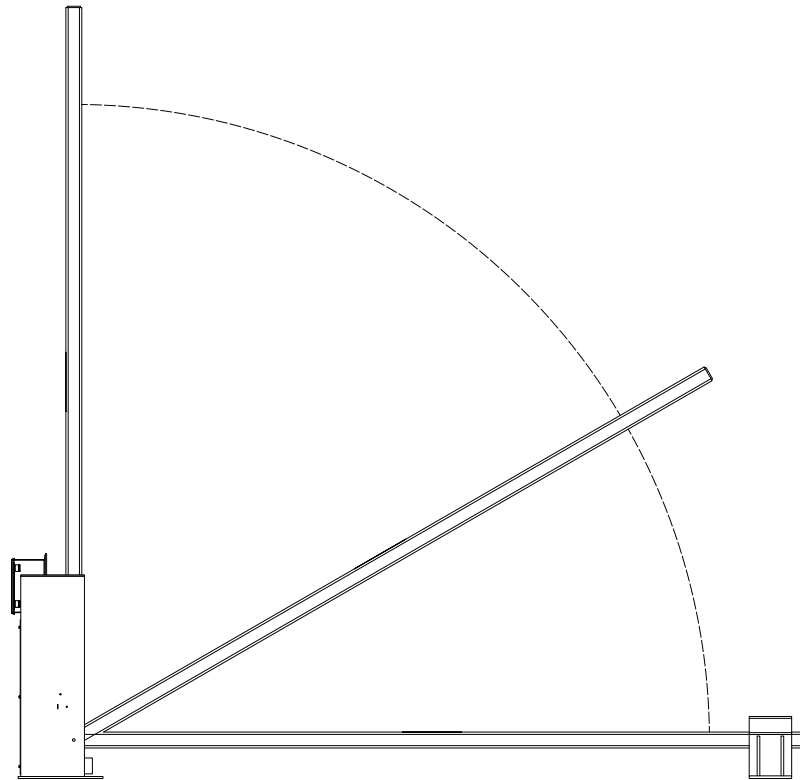

Figure 10
1. Visually check path of barrier travel (Figure 10) to make sure it is clear of objects and personnel.